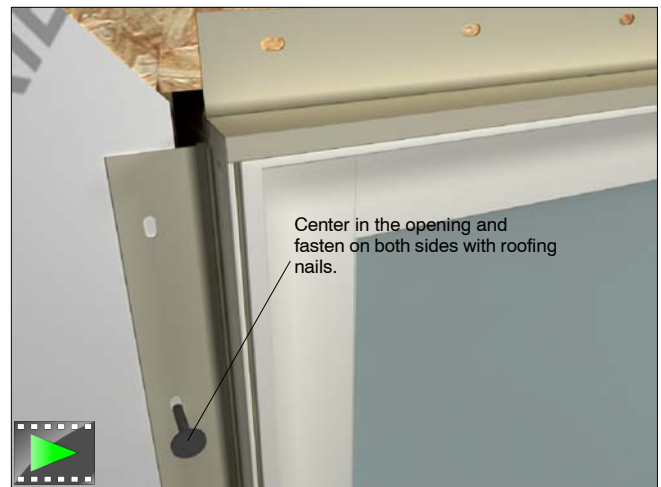

Figure 3: Fasten the top corners
2. Center the top of the unit in the opening. Use a hammer and 2" (51) roofing nails to fasten the exterior nailing fin at the side jamba 3" – 4" (76 – 102) down from the top on both sides. See figure 3.